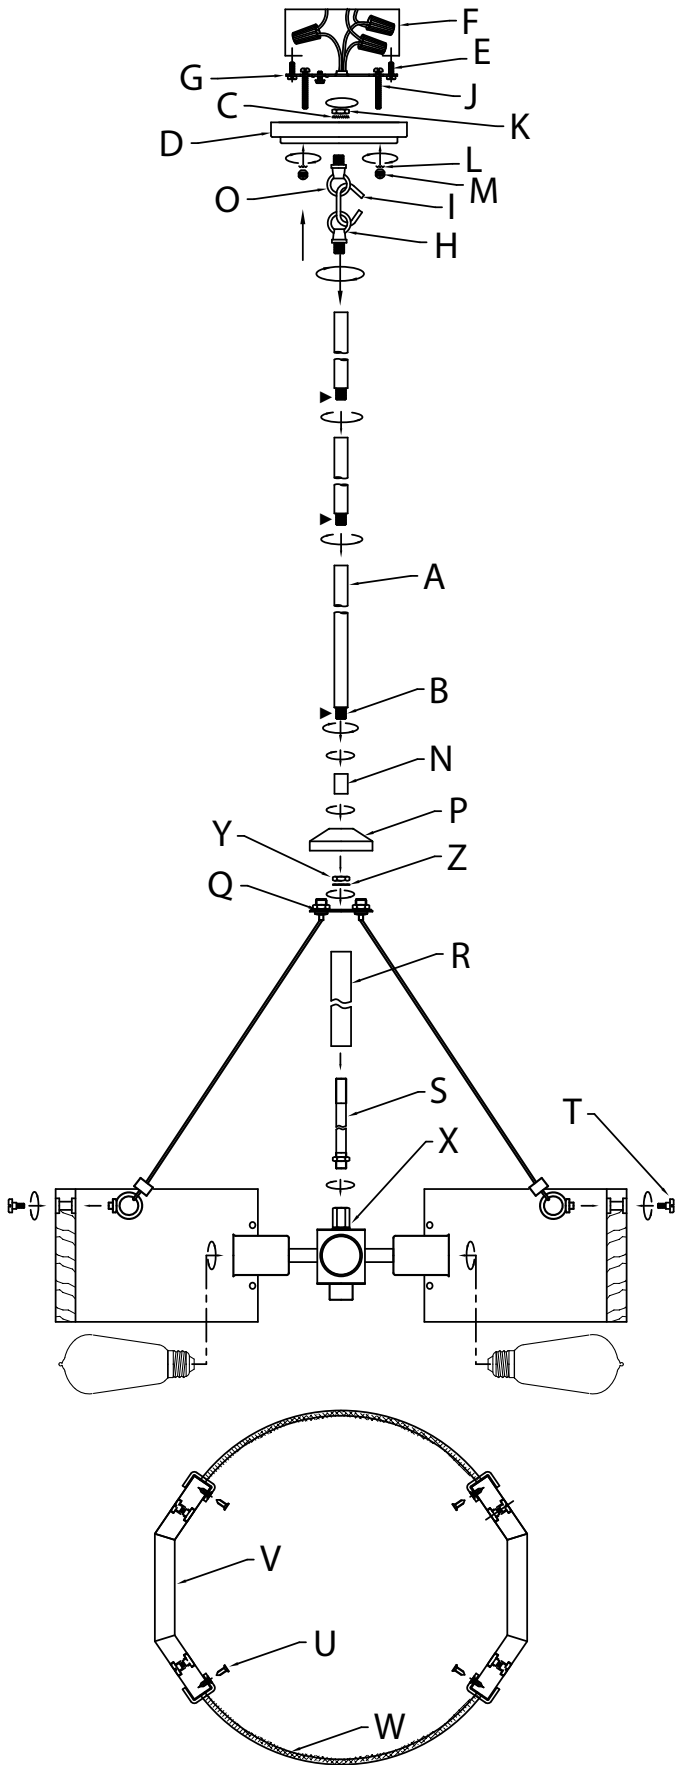

Fig. 1
- 17) Assemble the decorative ring by joining the two (2) wood sections[V] and the two (2) perforated mesh sections[W] together with the eight (8) flat head screws[U] as shown (Fig. 1).
- 18) Take the assembled decorative ring assembly and place over the light sockets and hang from the four (4) loops from support cable assembly[Q] and secure to the wood using four (4) threaded knobs[T].